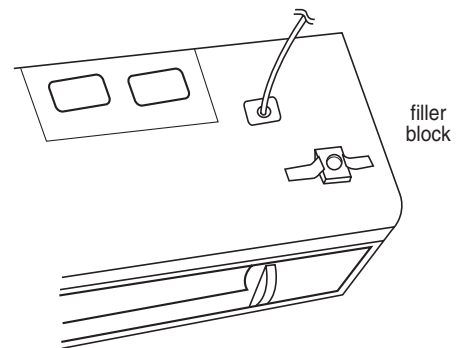

Figure 26
- Align filler blocks over the two openings in the top of the microwave oven cabinet and attach to cabinet with masking tape. See Figure 26.